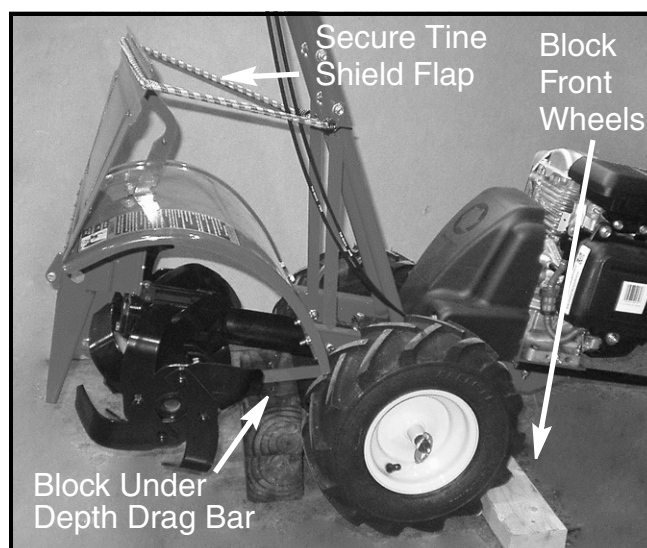

FIGURE 2
5. Block the wheels and block up the rear of the tiller as shown in Figure 2. Using a rope or bungy strap, secure the tine shield rear flap as shown.